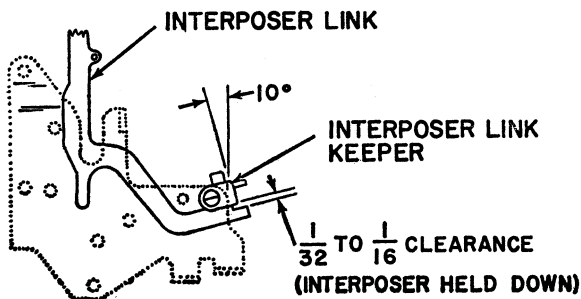

Figure 1. Interposer Link Keeper Adjustment
1. INTERPOSER LINK KEEPER. Adjust the keeper up or down in its elongated mounting holes so that, with the interposer links latched down and the cage at rest, the links will be $\frac{1}{32}$ " to $\frac{1}{16}$ " above their extreme down position. Check this by pulling down on the interposer links with a springhook. They should move $\frac{1}{32}$ " to $\frac{1}{16}$ " before bottoming (Figure 1). Adjusting the interposer link keeper too high may allow the interposers to drag on the bottom of the tab rack. Adjusting it too low may prevent the interposer links from latching down as they are restored. When making this adjustment, keep the front surface of the keeper about 10° off vertical (Figure 1) to insure proper latching and unlatching of the interposer links.